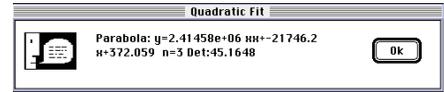

Figure 9.6. The 'Quadratic Fit' window.
**Quadratic Fit** is defined as a linear fit using 2ND degree equations instead of lines (Fig. 9.6).